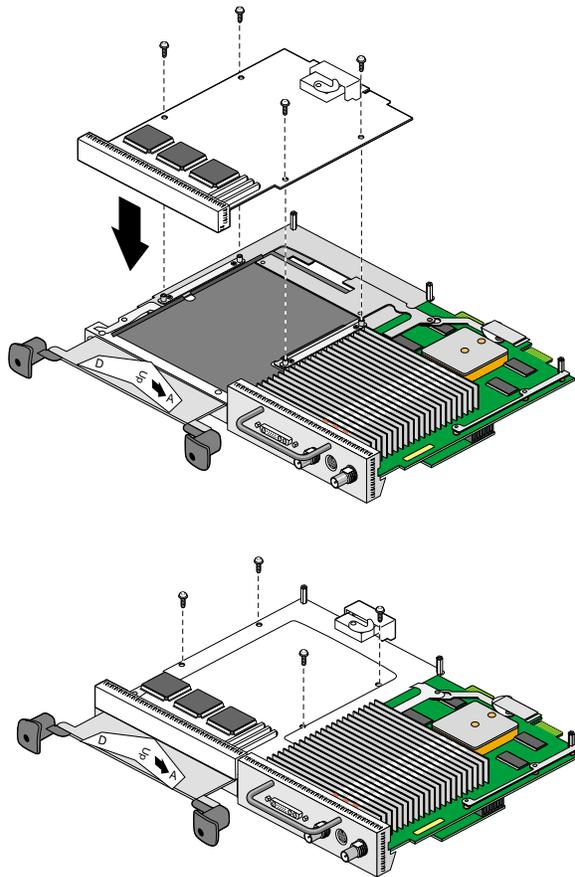

Figure 5-16 Installing the Screws
4. Install the screws, tightening the board or panel to the standoffs, as shown in Figure 5-16.